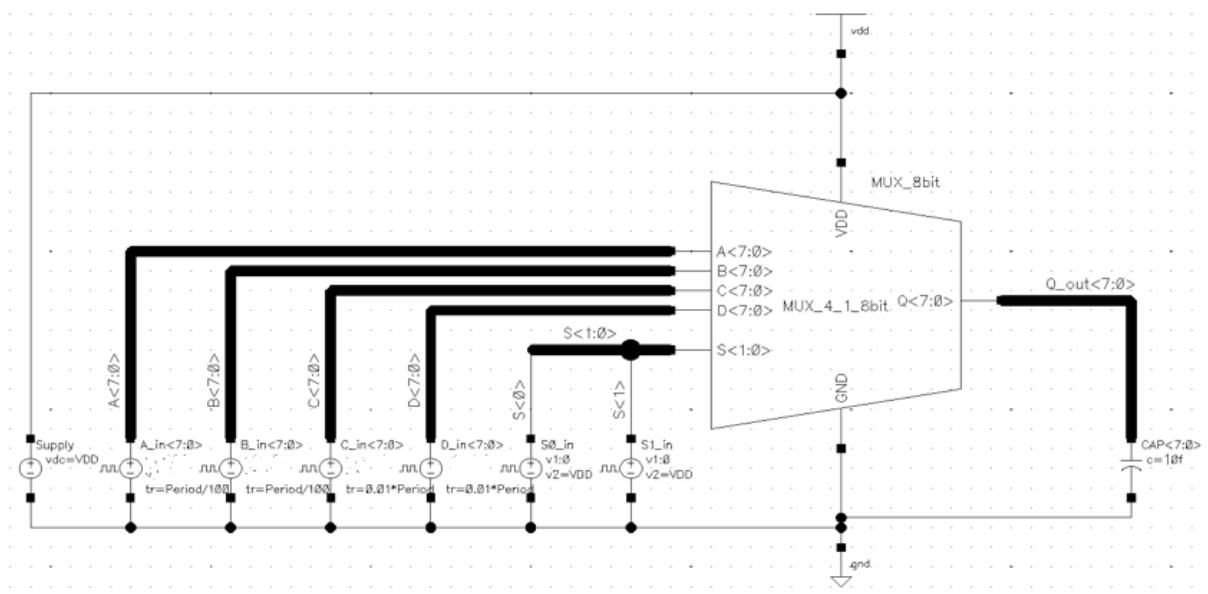

Figure 1 - Schematic View of the Testbench for the 8-bit MUX.
- ✓ Instantiate the symbol of the **MUX_4_1_8bit** that you have already generated in the previous session into the new schematic editor window. Then complete the schematic as shown in Figure 1.
- ✓ For **pulse generators** (**A_in<7:0>**, **B_in<7:0>**, **C_in<7:0>** and **D_in<7:0>**, **S0_in** and **S1_in**, as indicated in Figure 1) use **vpulse** component from **analogLib**. Check that names of the instances correspond to Figure 1, and that the properties correspond to the Table I.
- ✓ Use **Add→Wire Name** or press “**I**” to place labels accordingly to the input/output signals as shown in Figure 1.